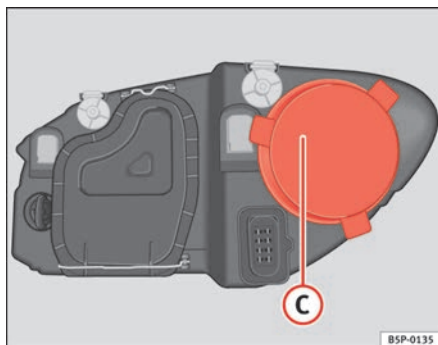

Fig. 181 Main beam headlights
- Remove the cover ⇒ fig. 181 C by pulling on this.